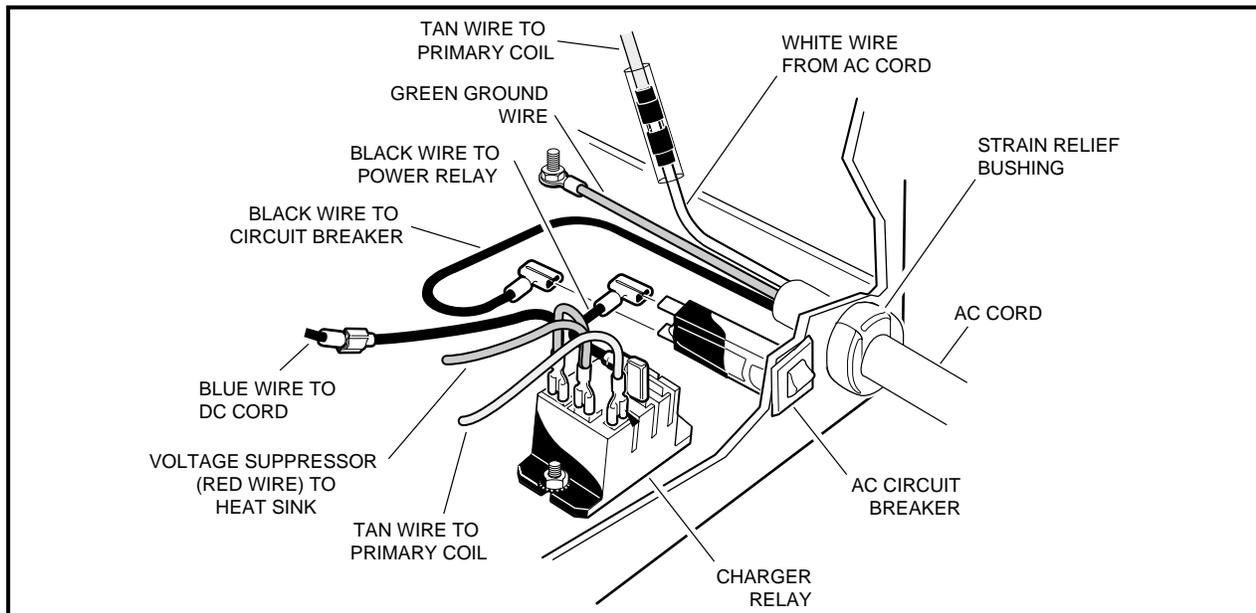

Figure 14-22 Charger Relay
3. Remove nut attaching voltage suppressor (18 gauge red wire) to heat sink (**Figure 14-22, Page 14-24**).
4. Disconnect blue wire to DC cord at quick disconnect terminal (**Figure 14-22, Page 14-24**).
5. Disconnect voltage suppressor from charger relay (**Figure 14-22, Page 14-24**).
- THE CHARGER RELAY BLADE CONNECTOR IS LOCATED OFF-CENTER WITHIN THE RELAY HOUSING. WHEN CONNECTING VOLTAGE SUPPRESSOR SLIP-ON CONNECTOR TO RELAY BLADE CONNECTOR, MAKE SURE SLIP-ON CONNECTOR IS POSITIONED SO THAT FLAT SIDE OF CONNECTOR IS CLOSEST TO RELAY HOUSING. **SEE FIGURE 14-22.**
3. Disconnect the red, blue, black, and primary coil wires from the relay (**Figure 14-22, Page 14-24**).
4. Remove two nuts and lock washers attaching relay to the charger base (**Figure 14-22, Page 14-24**).
1. Install in reverse order of removal. Connect wires as shown (**Figure 14-22, Page 14-24**). Tighten nut connecting relay to charger base to 18 in.lb (2.0 N-m).
3. Disconnect the two black wires attached to the circuit breaker (**Figure 14-22, Page 14-24**).
4. With a pair of pliers, squeeze the retaining tabs in on the sides of the circuit breaker and remove the circuit breaker through its mounting hole in the face of the charger (**Figure 14-22, Page 14-24**).
3. Disconnect the AC cord black wire at the circuit breaker (**Figure 14-22, Page 14-24**).
4. Disconnect the AC cord white wire at the primary coil tan wire (**Figure 14-22, Page 14-24**).
5. Disconnect the AC cord green wire at the charger base (**Figure 14-22, Page 14-24**).
1. Insert the black, white, and green leads of the new AC cord into the charger through the hole in the charger face (**Figure 14-22, Page 14-24**).
2. Connect the black wire to the circuit breaker, the white wire to the primary coil, and the green wire to the charger base (**Figure 14-22, Page 14-24**). See following NOTE.